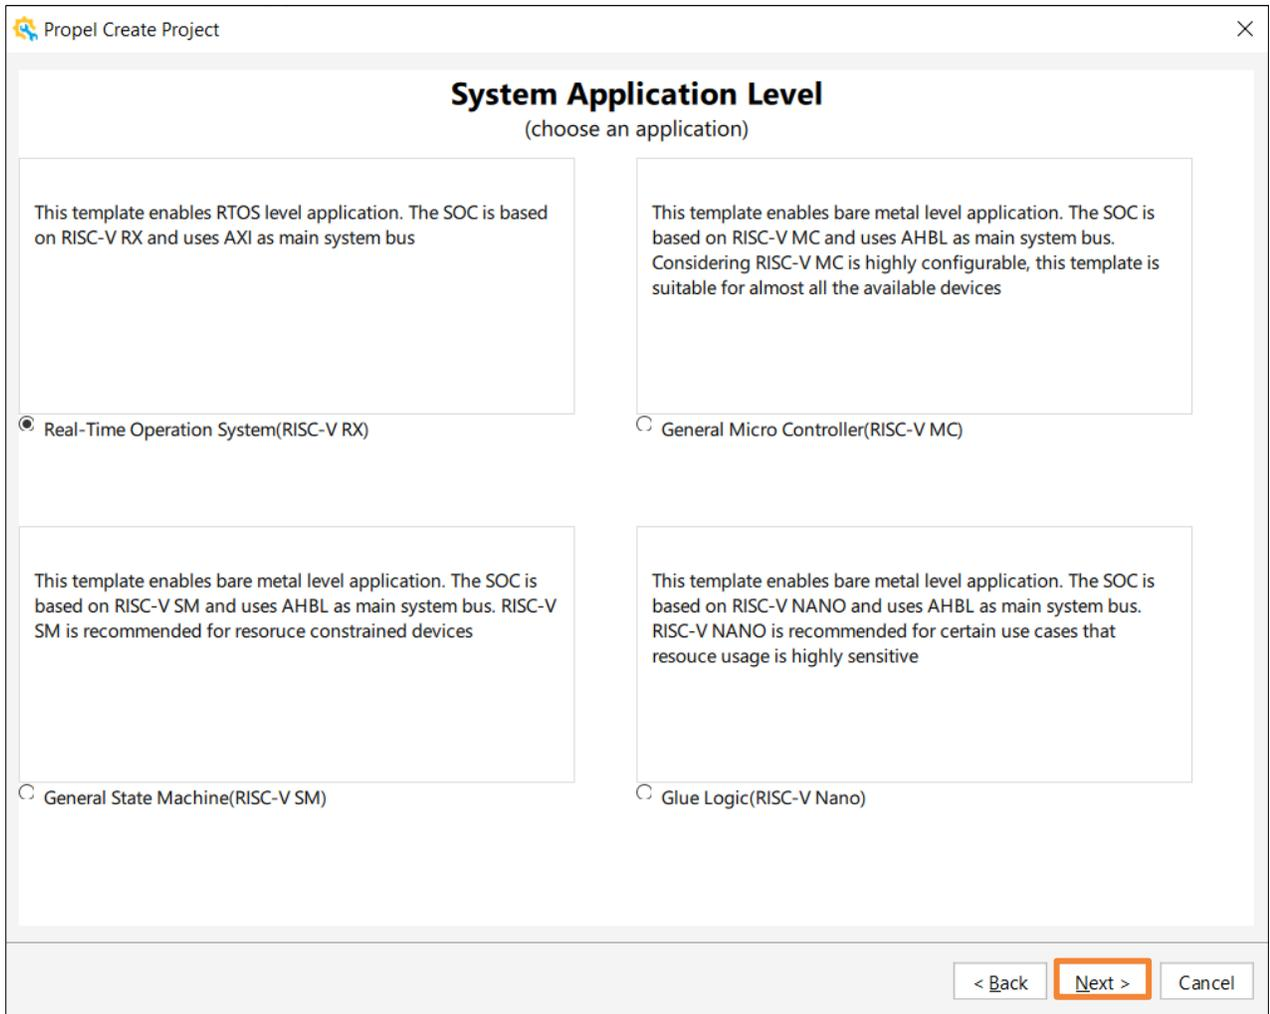

Figure 2.18. Scalable Wizard – System Application Level
2. Enter the Scalable Design wizard, in **System Application Level**, choose a template (Figure 2.18), and then click **Next**: